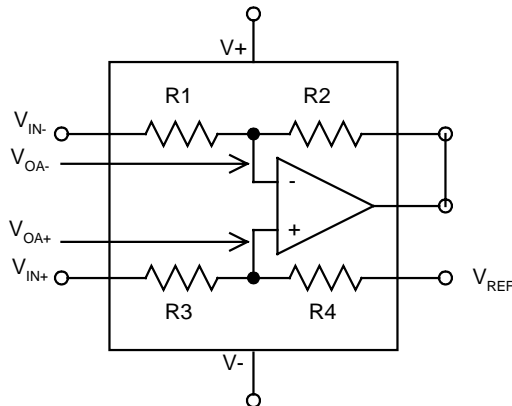

Fig. 4: Resistor Designations/Node Labels For Calculating Common-Mode Limits
This straightforward portrayal of common-mode limits with a biased reference does not readily show an even more powerful attribute of this method. Assume the non-inverting input to be at the negative common-mode limit of Fig. 3c of -2.5 V. You can still apply even more negative potential to the inverting input of the amplifier while remaining within common-mode limits, a trait useful for negative-supply current sensing. Because the internal op amp inputs are at zero volts under negative common-mode limit conditions, the ultimate negative going limit at the non-inverting input is the inverse of the maximum available output swing (4.65 V in the case of the INA152 on a 5-V supply.) Fig.4 shows just such an example, able to accept up to -4.65 V at the non-inverting input.
- A. Use this procedure to determine the limits of a given amplifier (use Fig. 4 as a reference) and a given circuit: